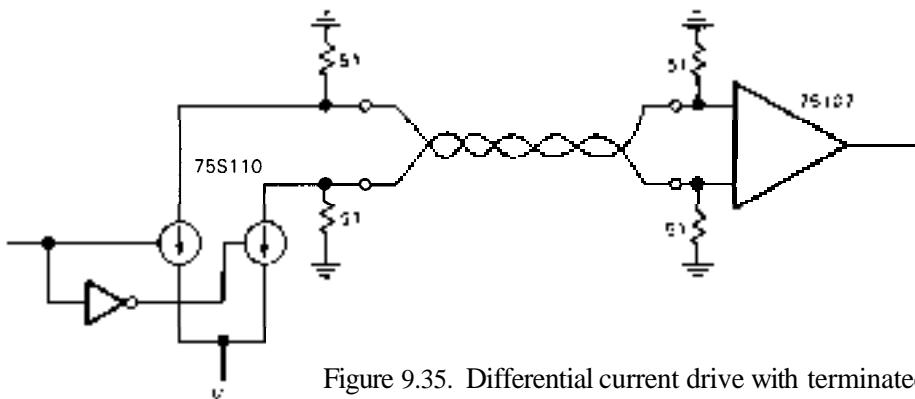

Figure 9.35. Differential current drive with terminated receiver.
**Current-sinking drivers.** Chips like the 75S110 and MC3453 have switched current-sinking outputs, which can be used as single-ended outputs or in a differential mode, as in Figure 9.35. The 75107 is a companion differential receiver chip, normally used with a termination as shown. Several drivers can share a common differential line in a "party line" configuration, since their outputs can be disabled via a "three-state" enable; in that case the terminations at each driver are omitted, and moved to the end of the line farthest from the receiver.